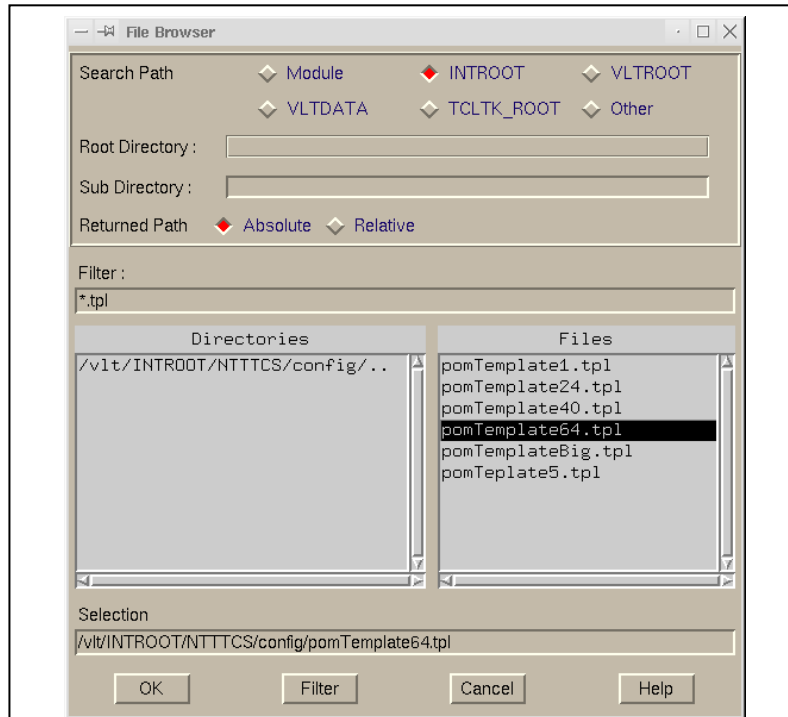

Figure 2.8: Template File Selection.
5. Click [Load...] is side of Template file (\*.tpl) and choose template from /vlt/INTROOT/NTTTCS/config (Figure 2.8). For a full model, chose pom Template64.tpl. To check the system, use pom Template5.tpl. In case of emergency (if you have to do a POM measurement during observations), use pom Template24.tpl. (template name: TemplateN°.tpl, where N°=number of stars on template)